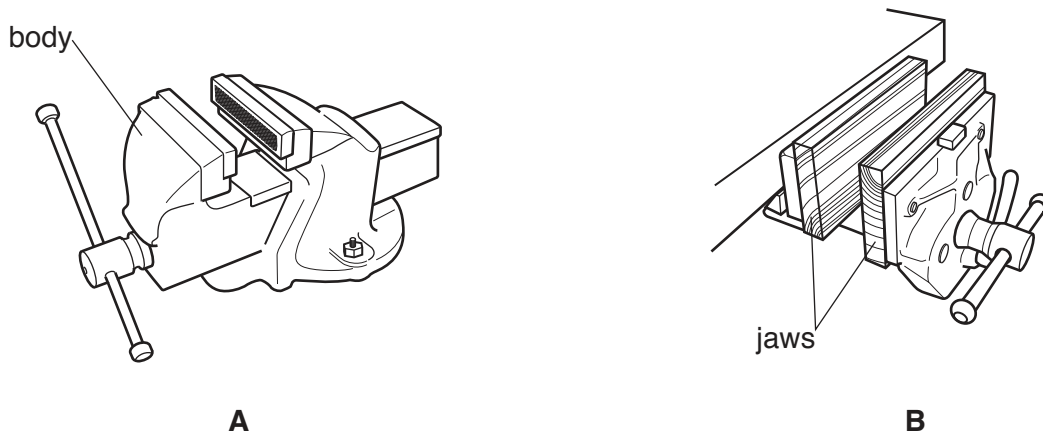

Fig. 1
- 2 Fig. 1 shows a metalwork vice **A** and a woodwork vice **B**.